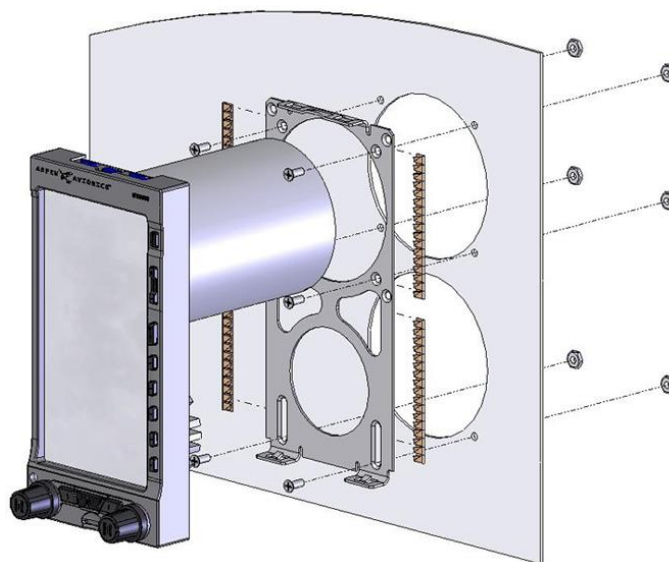

Figure 6-2: EFD and Bracket Installation
6.8.2 Surface Mounting the EFD as per Figure 6-2